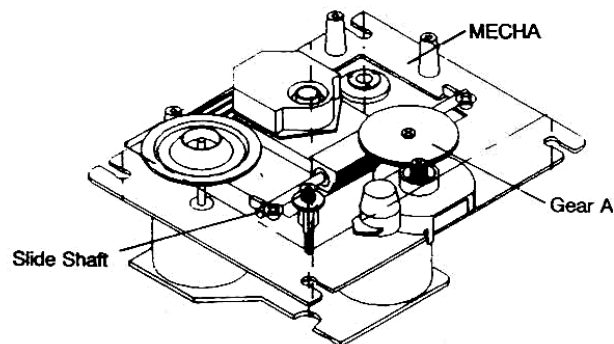

Fig. 7
3. Remove the gear A (See Fig. 7).